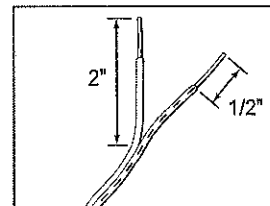

FIG. 4-7 Splitting and stripping.
- Split and strip ends of sensor wires and pre-wired wires. (Fig. 4-7)
### 4. Split and strip ends of sensor wires (Fig. 4-7).